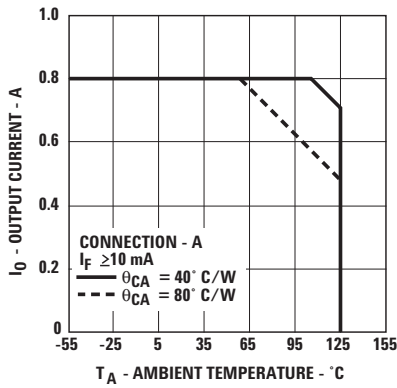
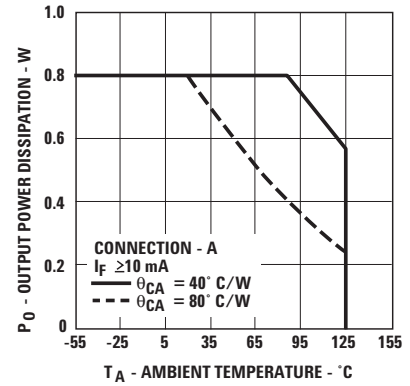

Figure 2. Maximum Average Output Current Rating vs. Ambient Temperature.
Figure 4. Output Power Rating vs. Ambient Temperature.
- For rating, see Figure 4. The output power P_O rating curve is obtained when the part is handling the maximum average output current I_O as shown in Figure 2.
IN ORDER TO DETERMINE V_{OUT} CORRECTLY, THE CASE TO AMBIENT THERMAL IMPEDANCE MUST BE MEASURED FOR THE BURN-IN BOARDS TO BE USED. THEN, KNOWING θ_{CA} , DETERMINE THE CORRECT OUTPUT CURRENT PER FIGURES 2 AND 4 TO INSURE THAT THE DEVICE MEETS THE DERATING REQUIREMENTS AS SHOWN.
The output on-resistance, R_{ON} , specified in this data sheet, is the resistance measured across the output contact when a pulsed current signal ($I_O = 800 \text{ mA}$) is applied to the output pins. The use of a pulsed signal ($\leq 30 \text{ ms}$) implies that each junction temperature is equal to the ambient and case temperatures. The steady-state resistance, R_{SS} , on the other hand, is the value of the resistance measured across the output contact when a DC current signal is applied to the output pins for a duration sufficient to reach thermal equilibrium. R_{SS} includes the effects of the temperature rise of each element in the thermal model. Rating curves are shown in Figures 2 and 4. Figure 2 specifies the maximum average output current allowable for a given ambient temperature. Figure 4 specifies the output power dissipation allowable for a given ambient temperature. Above 55°C (for $\theta_{CA} = 80^{\circ}\text{C/W}$) and 107°C (for $\theta_{CA} = 40^{\circ}\text{C/W}$), the maximum allowable output current and power dissipation are related by the expression $R_{SS} = P_{O(max)} / (I_{O(max)})^2$ from which R_{SS} can be calculated. Staying within the safe area assures that the steady-state junction temperatures remain less than 150°C . As an example, for $T_A = 95^{\circ}\text{C}$ and $\theta_{CA} = 80^{\circ}\text{C/W}$, Figure 2 shows that the output current should be limited to less than 610 mA . A check with Figure 4 shows that the output power dissipation at $T_A = 95^{\circ}\text{C}$ and $I_O = 610 \text{ mA}$, will be limited to less than 0.35 W . This yields an R_{SS} of 0.94Ω .